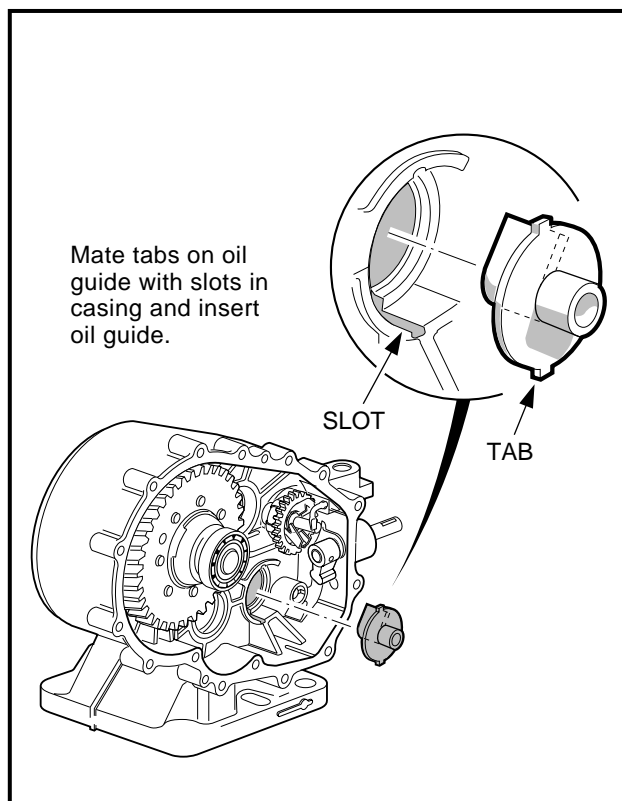

Figure 16-75 Oil Guide
- 7.2. Install the idler gear assembly into case as shown. Do not seat the assembly in the bore, but insert far enough that it will not fall out. No gears mesh at this time (**Figure 16-75, Page 16-31**).
- 7.3. Install the oil guide with the baffle toward the case wall as shown (**Figure 16-75, Page 16-31**). Make sure the two tabs on the guide are positioned in the slots in the case.